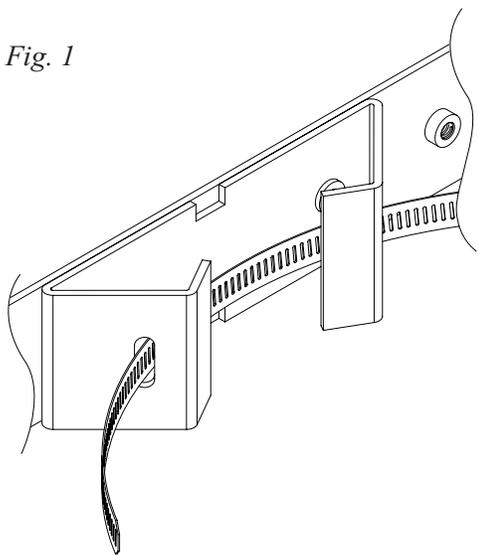

Fig. 1
1. Thread one (1) wormgear quick release strap through the slots on the back of a mounting bracket (*Fig. 1, pg. 1*).
4. Thread the second wormgear quick release strap through the slots on the back of the bottom mounting bracket (*Fig. 1, pg. 1*).